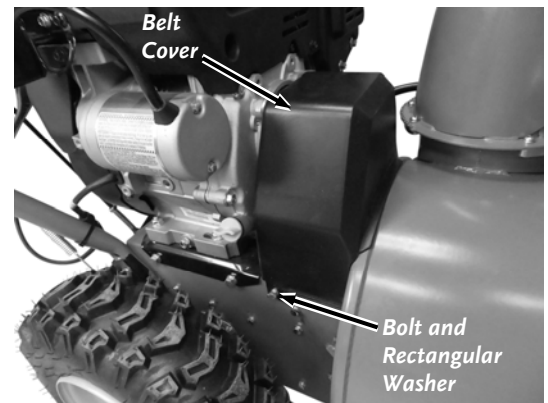

Figure 47
1. Remove the two Bolts and rectangular Washers from the Belt Cover using a 10mm Wrench (**Figure 47**). Remove the Belt Cover.